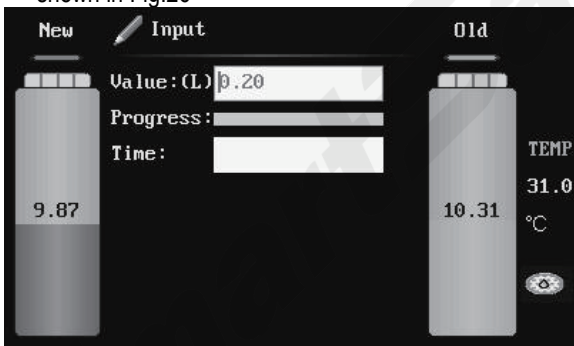

Fig.26
- 2) Input the amount to be filled, press ENTER key. As shown in Fig.26